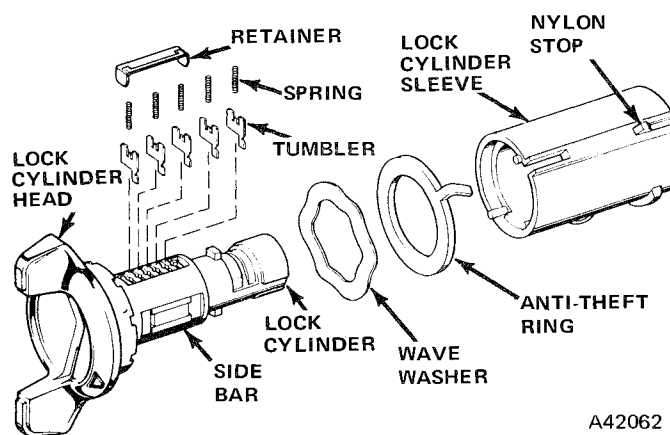

Fig. 2J-66 Ignition Lock Cylinder Assembly
(12) Pry tumbler retainer from cylinder and remove tumbler springs (fig. 2J-66).
(13) Pull side bar outward slightly and remove tumblers from cylinder (fig. 2J-66).